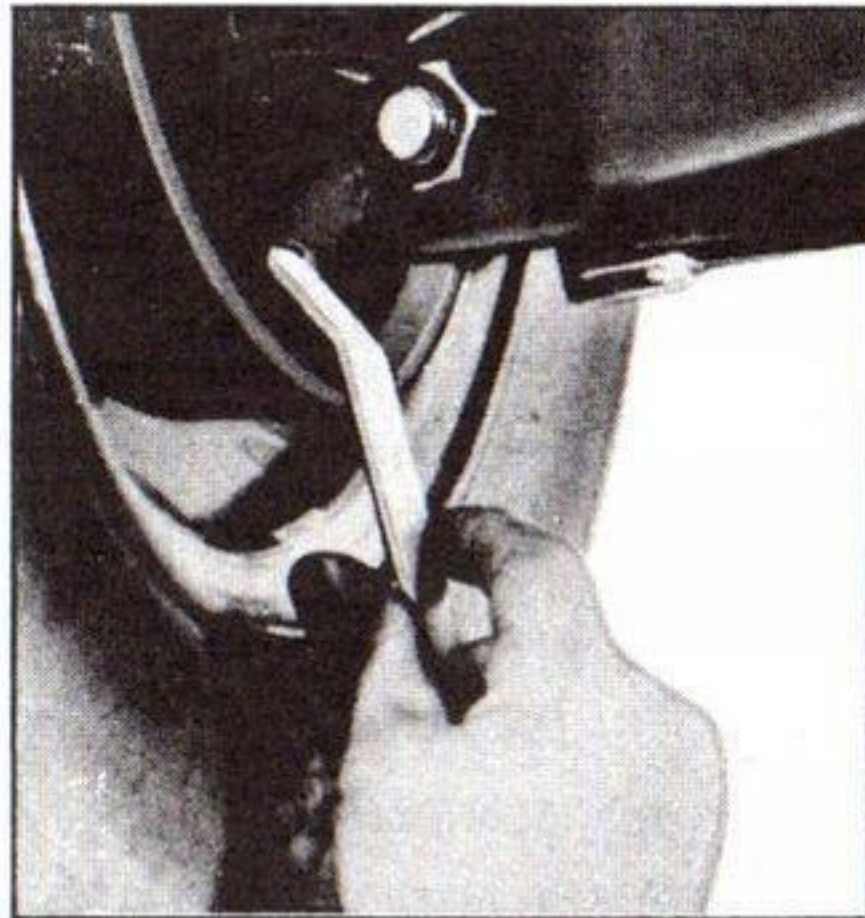

Fig. 41—Brake Adjustment
2. Through hole in flange plate, insert screw driver or similar tool and engage it in teeth of adjusting wheel (fig. 41).